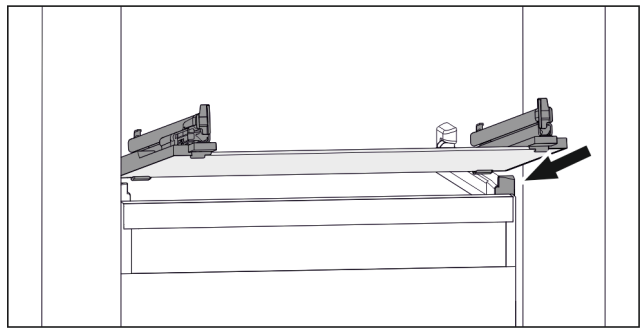

Fig. 53 Example illustration of glass shelf
- ▶ Position glass shelf at an angle behind the stoppers. (see Fig. 53)